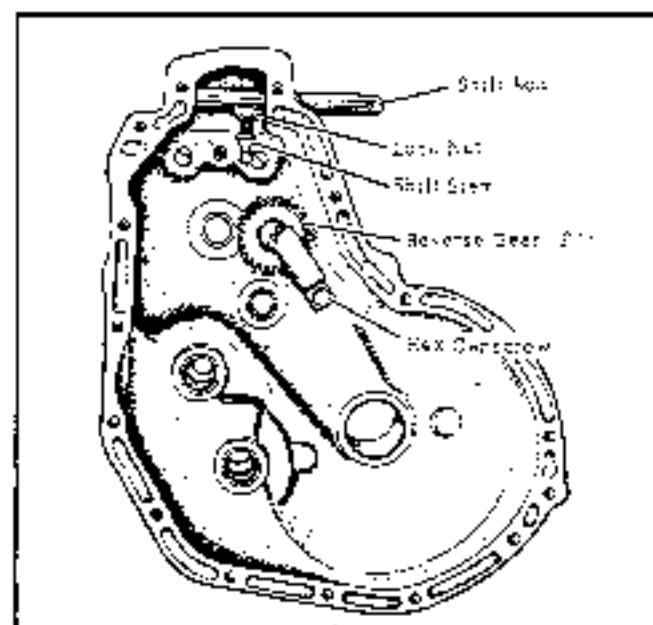

FIG. 5
6. The reverse gear "F" may be removed now, by undoing the lock nut on the back-side of the transmission case, and removing the hex head capscrew from the bracket on the inside of the case. (See Fig. 5).